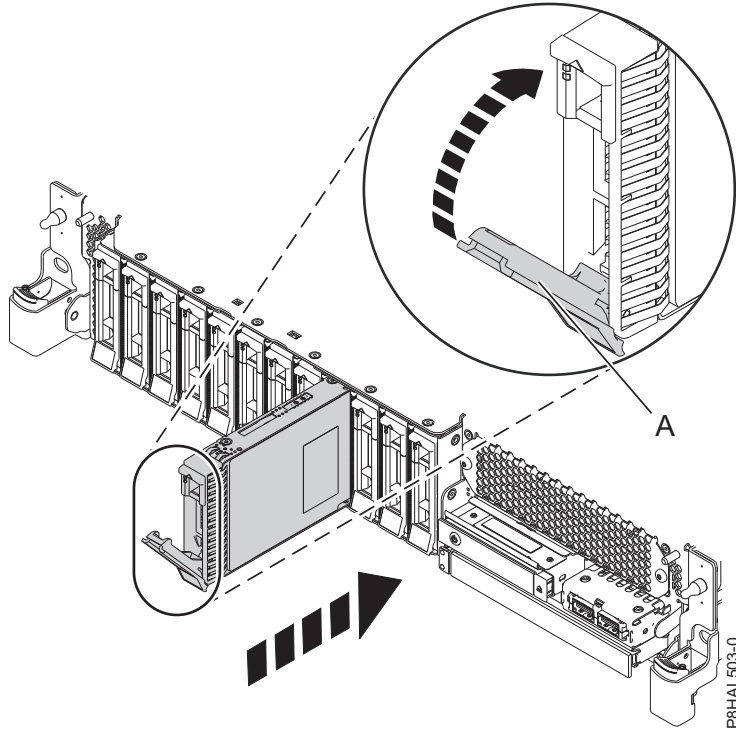
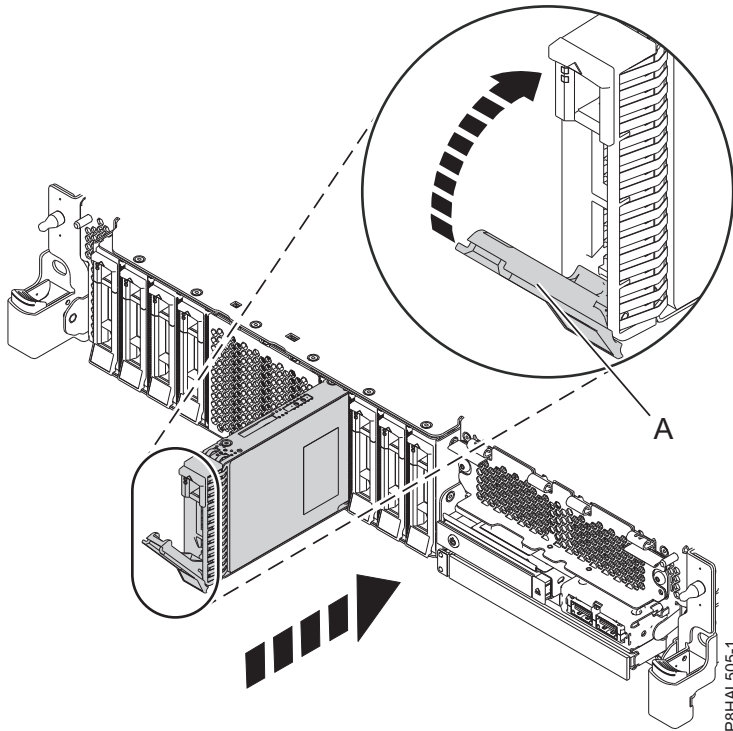

Figure 54. Replacing a disk drive in a base function system
Figure 55. Replacing a disk drive in an expanded function system
3. Unlock the drive bay handle (A) by pressing it and pulling it out toward you. If the handle is not all the way out, the drive does not slide into the system. See Figure 54 on page 55 and Figure 55 on page 56.
- When the identify LED turns on solid, slide the drive all the way into the system, and push the drive carrier handle (A) in until it locks, as shown in the following figure. Figure 54 and Figure 55 on page 56.